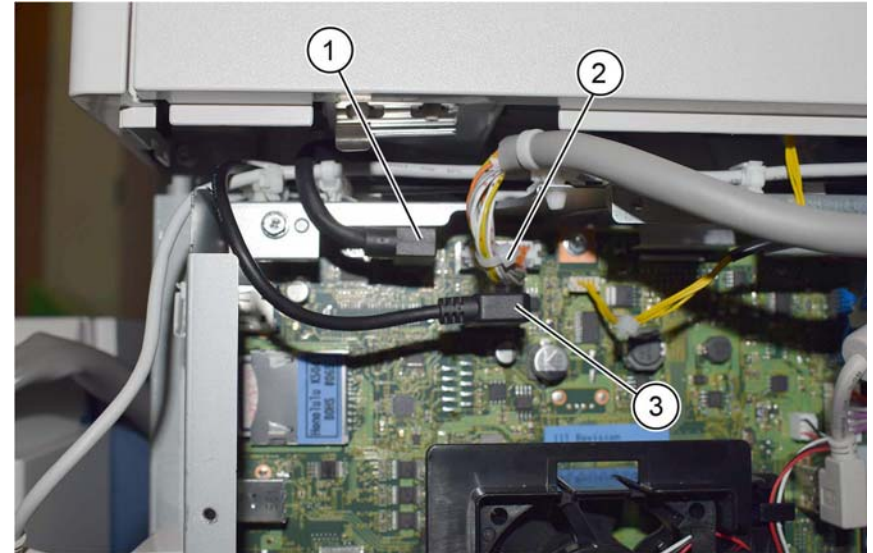

Figure 6 Cables
9. Disconnect the USB, DADF I/F and UI cables, Figure 6:
- Disconnect the USB cable (1).
- Disconnect the DADF I/F cable. (2).
- Disconnect the UI cable (3).